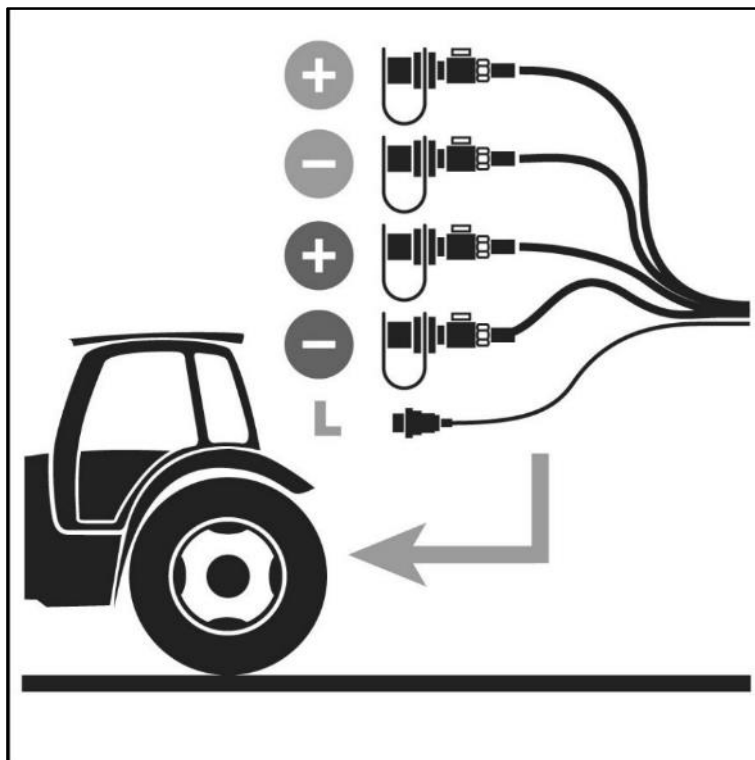

Figure 13
All controls are marked with special signs, which show their function and indicate their action and position with pictures (see Figure 13).
As far as electrical connections are concerned, insert the plug of the machine's electrical system into the tractor's socket (see *Figure 13*).
Both systems must be connected to a double-acting distributor on the tractor (see Figure 13).
- Make sure the machine lighting system plug marked "L" is connected to the tractor's socket (see Figure 13).
- Make sure the machine hydraulic system is disconnected from the tractor hydraulic system (see Figure 13).
- Connect the machine hydraulic system to the tractor hydraulic system (see Figure 13).